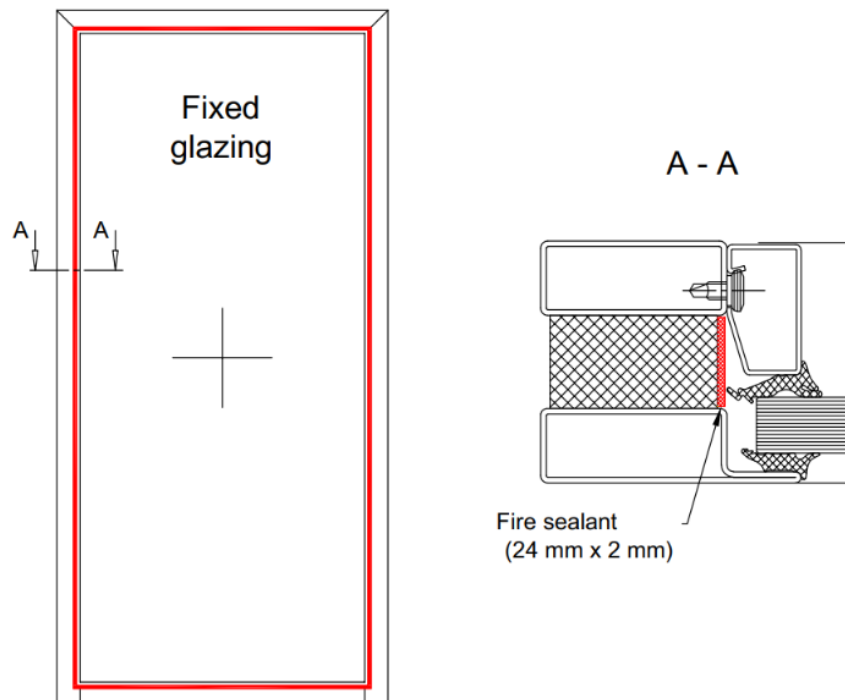

Figure 7 Installation of fire sealant 24 x 2 mm
7. Clean the dust and dirt from the glazing opening with cleaning agent and cleaning paper. Install fire sealant (24 mm x 2 mm) (Figure 7).